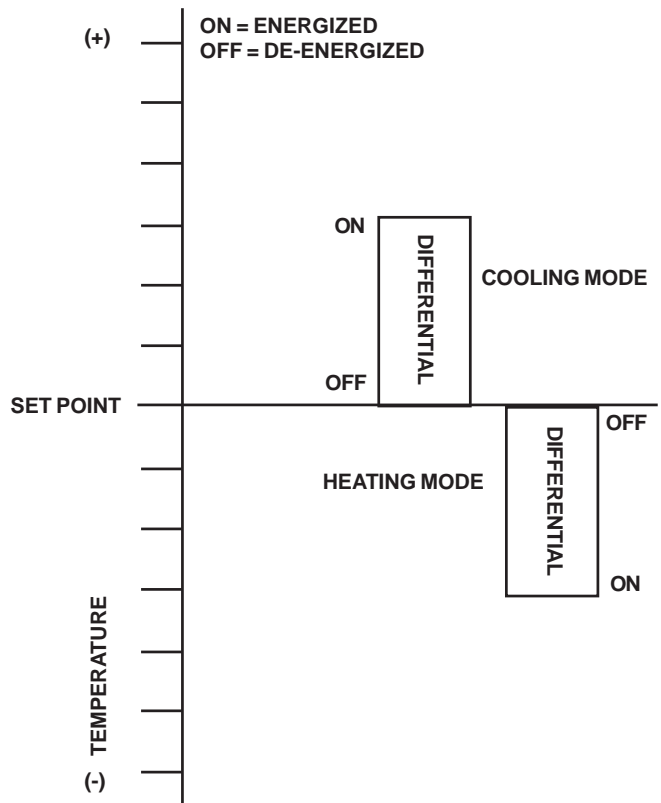

Figure 1: **Setpoint and Differential Settings.** Diagram indicates relay on and off points in either the heating or cooling modes.
The temperature setpoint refers to the temperature at which the normally open (NO) contacts of the output relay will open. Determine the load(s) to be controlled and the operating mode required, cooling or heating. Refer to Figure 1 for a visual representation.